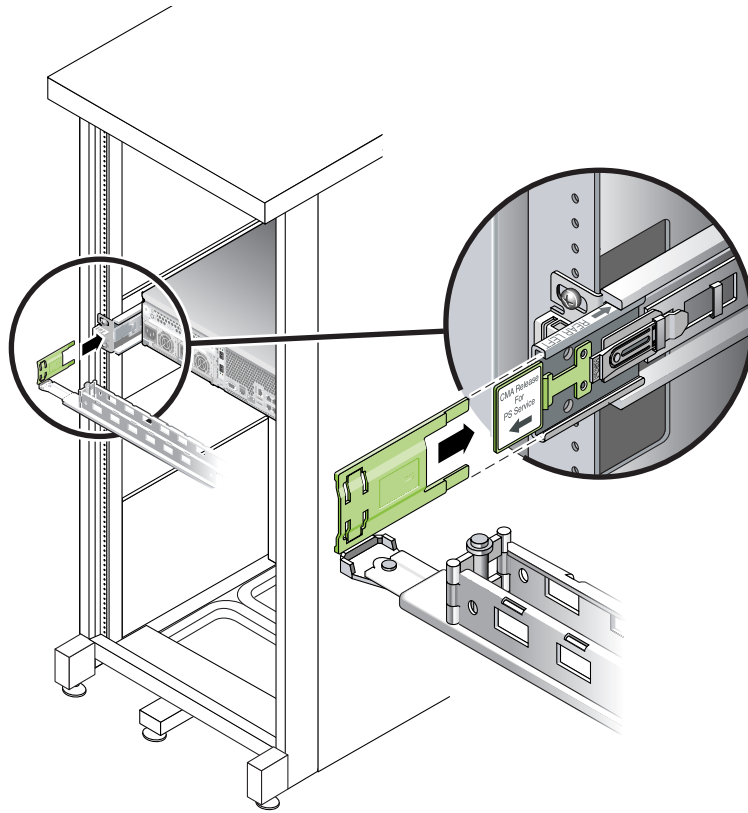

FIGURE 2-21 Mounting the Left Side of the Slide Rail
4. Insert the hinged plastic connector at the left side of the CMA fully into the CMA rail extension (FIGURE 2-21).